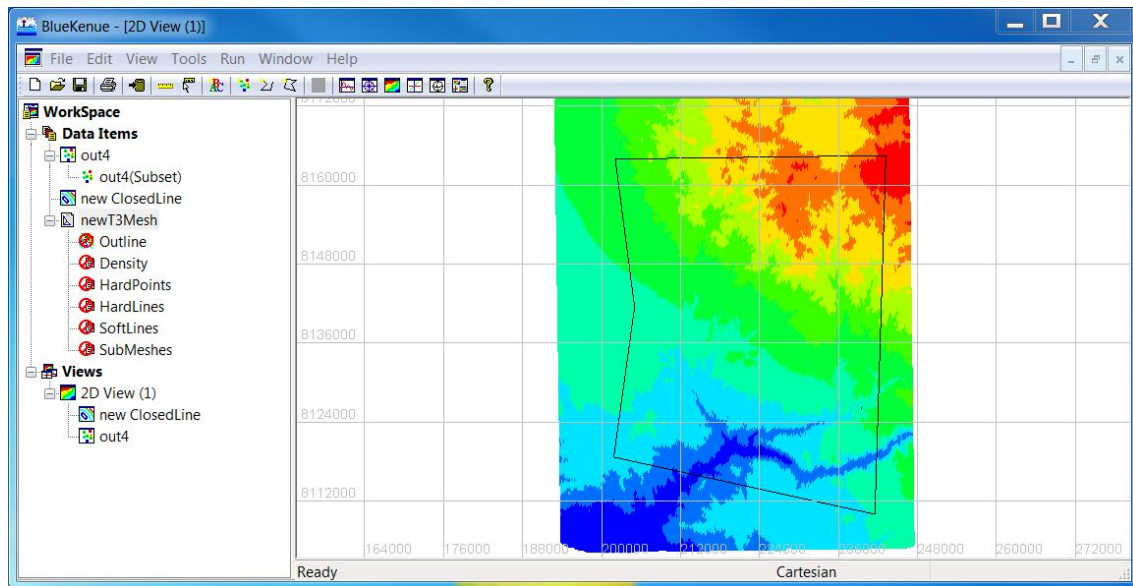

Figure A107: Create New T3 Mesh
4. Select Files>New>T3 Mesh generator (Figure A107) Page 90